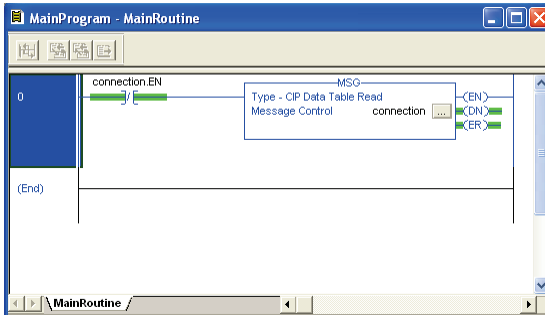

Figure 74: Complete Program
6) The program is now complete. Refer to Figure 74.